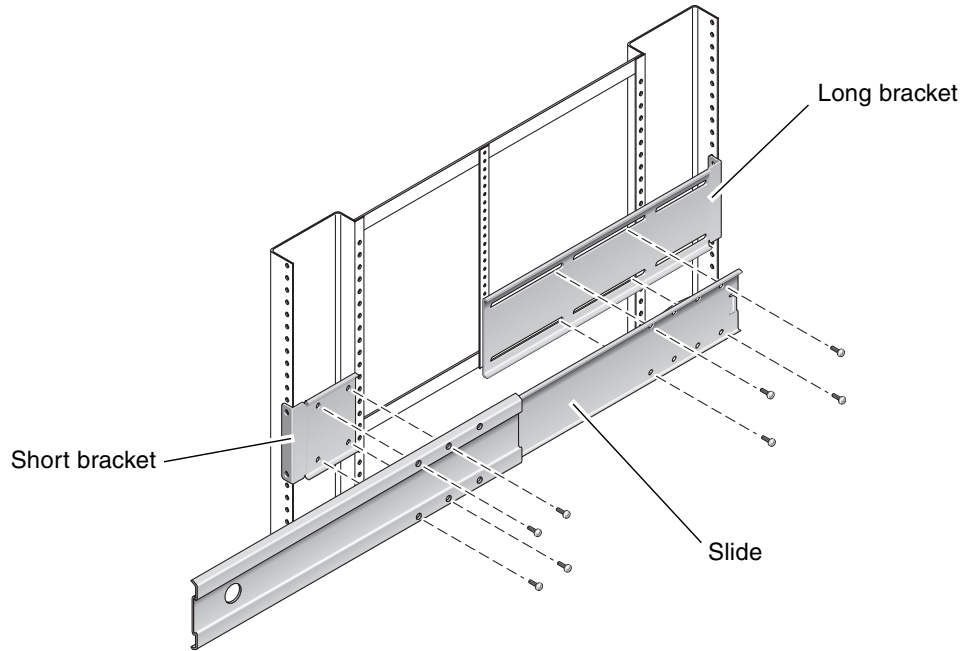

FIGURE 3-12 Securing the Slide to the Brackets
10. Using the M5 panhead screws (four for the short bracket and four for the long bracket), secure the slide onto the short and long brackets at the front and rear of the rack (FIGURE 3-12).